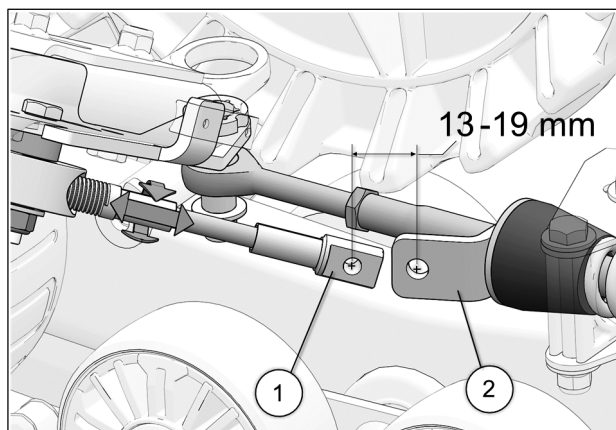

Fig. 25
16. Turn the vehicle's steering wheel to its maximum point of travel on the left. While maintaining pressure on the steering wheel, turn threaded rod to adjust length of cable. See Fig. 25
17. Position cable end hole (1) 13-19 mm short of support plate mounting hole (2). See Fig. 25